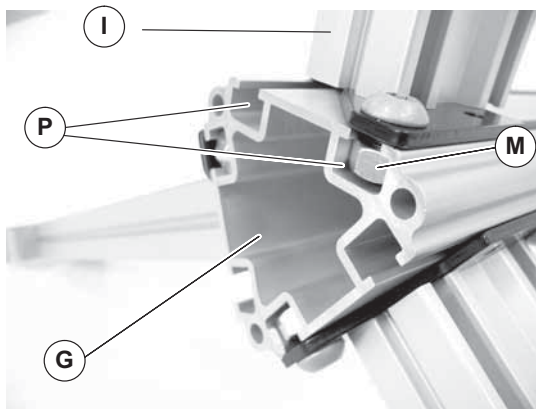

Figure 5
- Align the leg tube end plate hex nuts (Figure 5, item M) with the t-slots (P) on one side of the trileg post (G). Slide the hex nuts (M) into the T-slots (P).